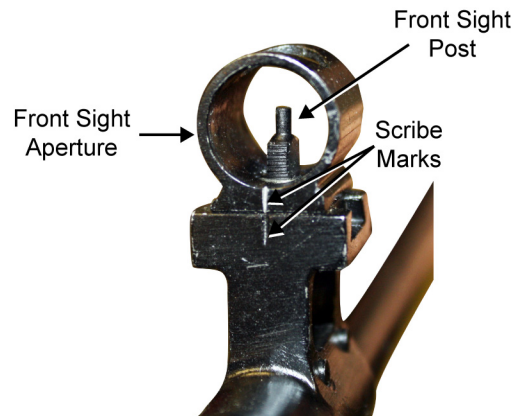

Figure 1. Front Sight Assembly.
1. Unscrew the front sight post counterclockwise until it clears the front sight aperture. Refer to Figure 1.
Refer to Figure 1.
2. Remove the front sight aperture by tapping with a rawhide mallet from left to right. Refer to Figure 1.